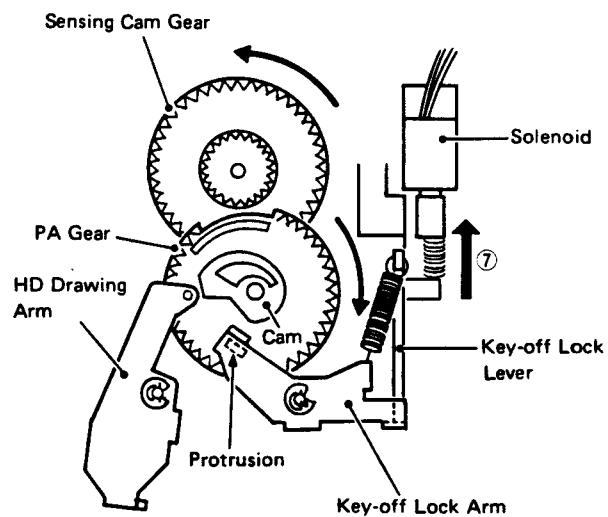

Fig. 14 Stopped state after turning through about 1 rotation (with MS)
- (10) With Music Search (MS)(Fig. 14)